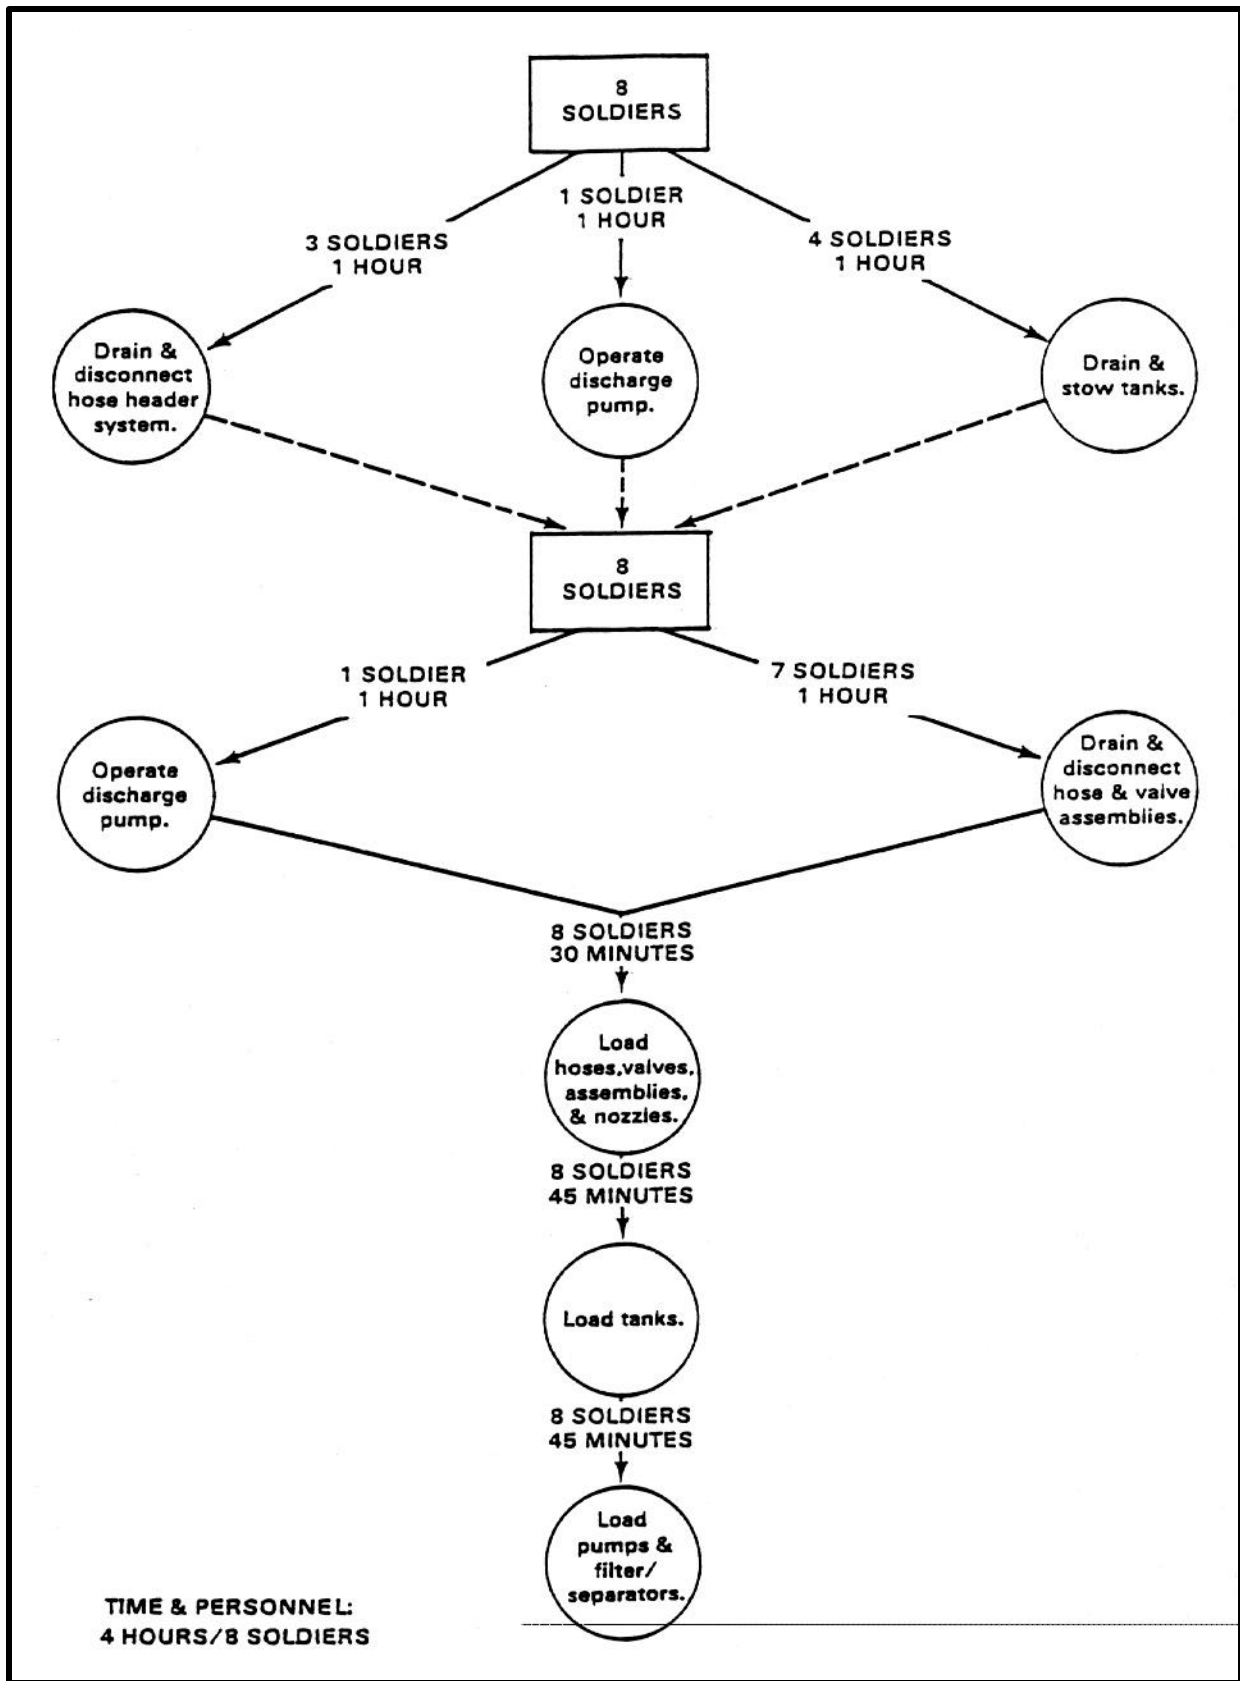

Figure 4-8. Displacement plan for the FSSP
**Displacement Plan .** Leapfrogging is commonly used to move fuel system supply points. While half of the fuel remains at the old site to maintain limited service, the other half is moved to the new site. This provides continuity of operations, and fewer vehicles are needed to transport the equipment. Eight soldiers should be able to drain, dismantle, and load the FSSP in approximately four hours. (See Figure 4-8, page 4-41.) Time may vary according to the experience of personnel and the type of terrain. The site should have been initially prepared with a 3 to 6 inch slope toward the issuing fill port and manifold of each collapsible tank. This makes it easier to completely drain the tanks. A forklift truck is needed to load the 350-GPM pumps, filter/separators, and collapsible fabric tanks onto the flatbed semitrailer or 5-ton cargo trucks. The supply control section should have already coordinated for sufficient 5000-gallon semitrailer tankers to receive fuel drained from the FSSP.